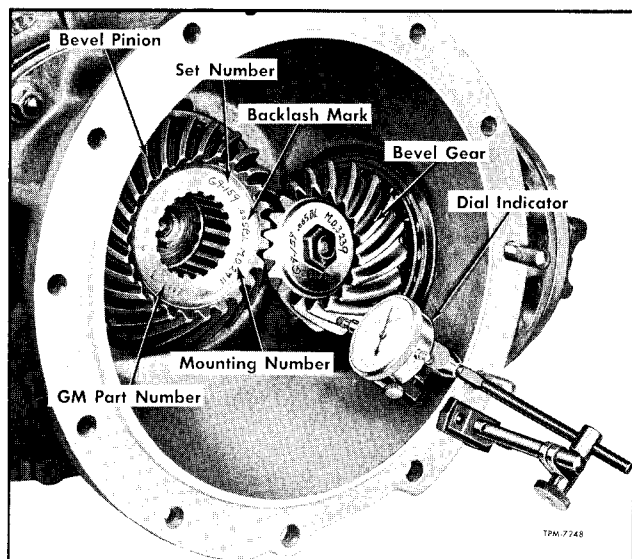

Figure 73—Checking Bevel Gear Backlash
Backlash dimension is etched on pinion and bevel gear as shown in figure 73.
2. Check gear backlash using dial indicator positioned as shown in figure 73. Dimension should be same as etched on gears. Adjustment can be accomplished through shims (9 and 37) provided between bevel gear bearing retainer (8) and accessory drive housing, and between bevel pinion bearing retainer (35) and accessory drive housing. Shims are of 0.003", 0.010", and 0.031" thickness.